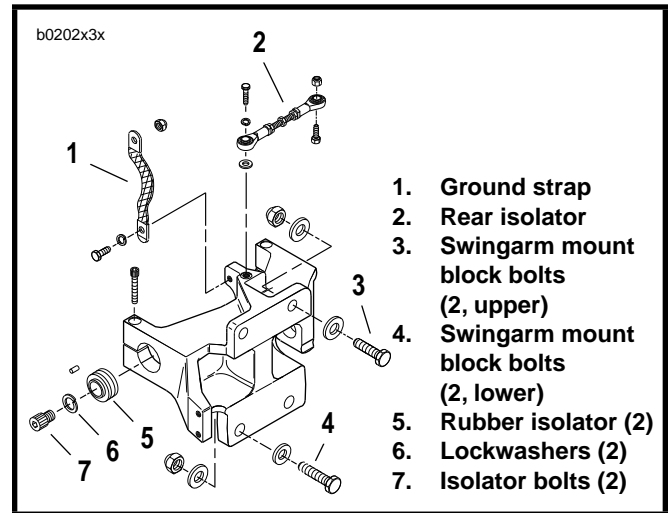

Figure 3-3. Rear Tie Bar Assembly
17. See Figure 3-3. Remove engine ground strap (1) from swingarm mount block.
20. See Figure 3-3. Remove isolator bolt (7) and lockwasher (6) on each side.
21. Slowly raise floor hoist until rubber isolators (5) can be removed. Frame will rise while engine remains secured to lift by crating strap.
2. See Figure 3-3. If removed, attach swingarm mount block to engine. Install upper bolts (3), washers and locknuts finger tight. Install lower bolts (4), washers and locknuts finger tight. Tighten upper bolts to 41-45 ft-lbs (55.6-61.0 Nm) and lower bolts to 68-75 ft-lbs (92.2-101.7 Nm).
6. See Figure 3-3. Apply **LOCTITE THREADLOCKER 262** (red) to side isolator bolts (7). Align pins on frame into holes in rubber isolators. Install bolts (7) and lockwashers (6) finger tight.
7. See Figure 3-3. Attach rear tie bar assembly (2). Install bolt, lockwasher, and washer on swingarm mount block. Install bolt and locknut on frame. Tighten bolts to 30-33 ft-lbs (40.7-44.7 Nm).
10. See Figure 3-3. Tighten the two side isolator bolts (7) to 100-110 ft-lbs (135.6-149.1 Nm).